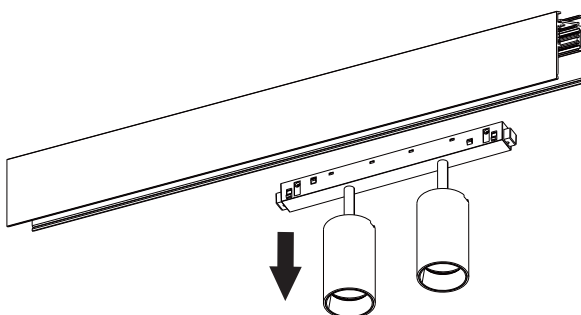

Figure 24
4. To remove a light module insert, push the button from both ends of the fixture unit again to unlock and remove the unit (Figure 24).